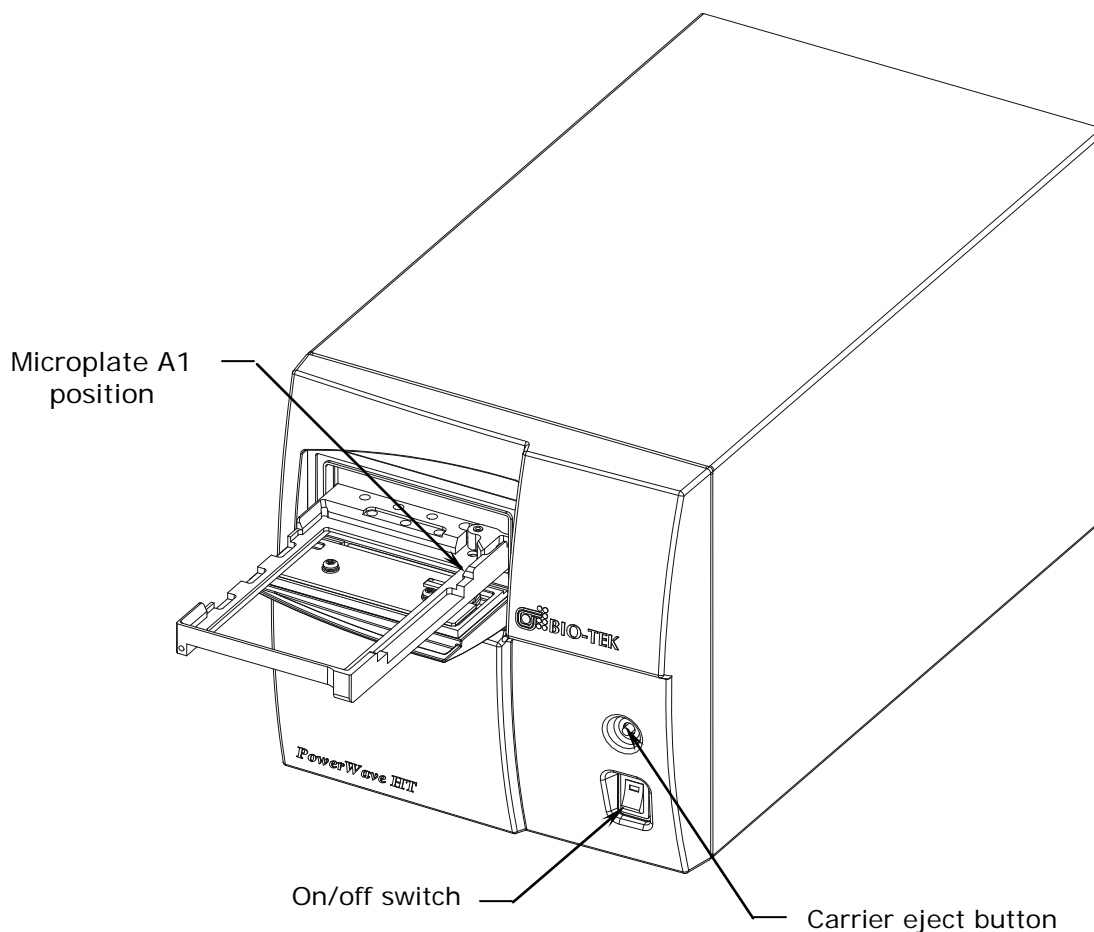

Figure 3: Power on/off switch and carrier eject button
1. Locate the power on/off switch on the front of the instrument, below the carrier eject button. See **Figure 3** on the next page. Turn on the power. The reader will perform an internal self-test and carrier homing sequence.